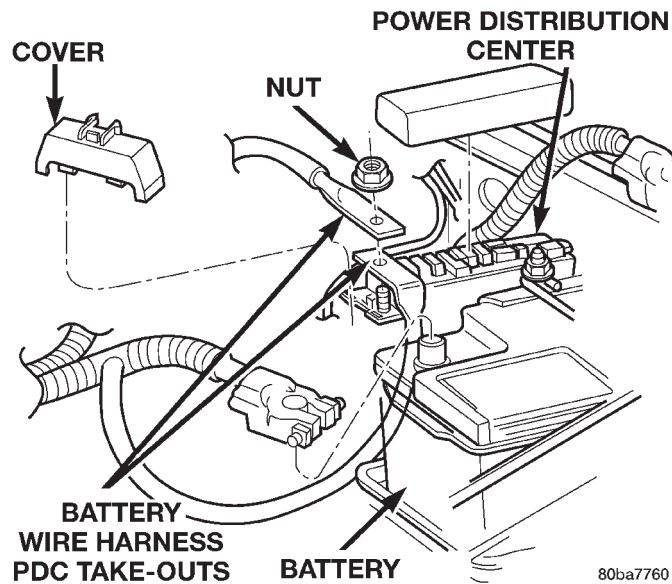

Fig. 3 Power Distribution Center Connections
(3) Remove all of the fasteners that secure each of the headlamp and dash wire harness ground eyelets to the vehicle body and chassis components. Refer to **Connector Locations** in the Contents of Group 8W - Wiring Diagrams for more information on the ground eyelet locations.
(4) Disengage each of the retainers that secure the headlamp and dash wire harness to the vehicle body and chassis components. Refer to **Connector Locations** in the Contents of Group 8W - Wiring Diagrams for more information on the retainer locations.
(5) Unlatch and remove the terminal stud cover from the front end of the PDC (Fig. 3).